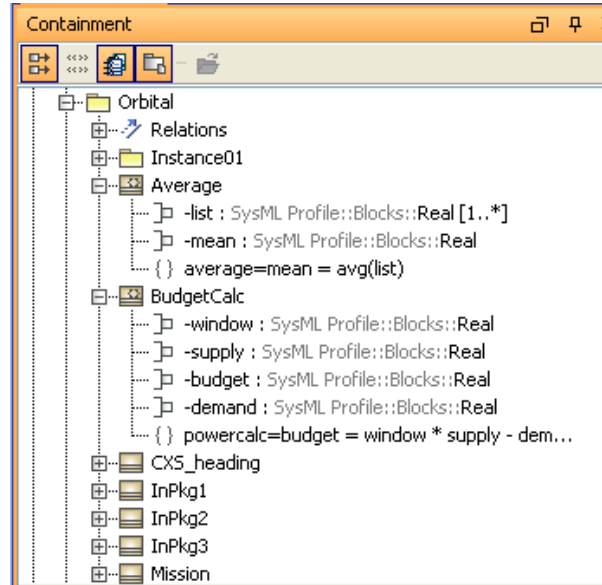

Fig. 6.4 Constraint Blocks
5. Create two constraint blocks, **Average** and **BudgetCalc**, as shown in Figure 6.4. Note that **Average** uses **list**, a constraint parameter with multiplicity larger than one. To change the multiplicity of a constraint parameter, RC the constraint block in the BDD diagram. **Average** calculates the average of all the values contained in **list** and returns a single value result, **mean**. The ParaMagic User Guide provides a list of Mathematica functions that act on arguments with multiplicity > 1.